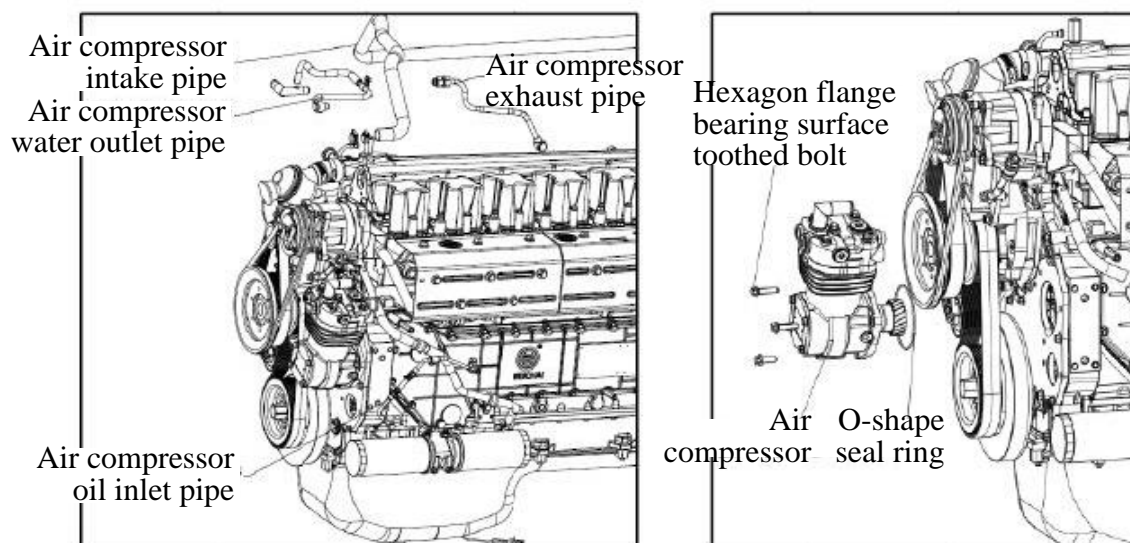

Fig. 4-77 Disassembly of air compressor and its pipelines
- (1) Remove air compressor intake pipe, water inlet pipe, water outlet pipe and oil inlet pipe.
- (2) Remove the three hexagon flange bearing surface toothed bolts of air compressor, and then take air compressor out, remove the O-shape seal ring in the meantime. As shown in Fig. 4-77.